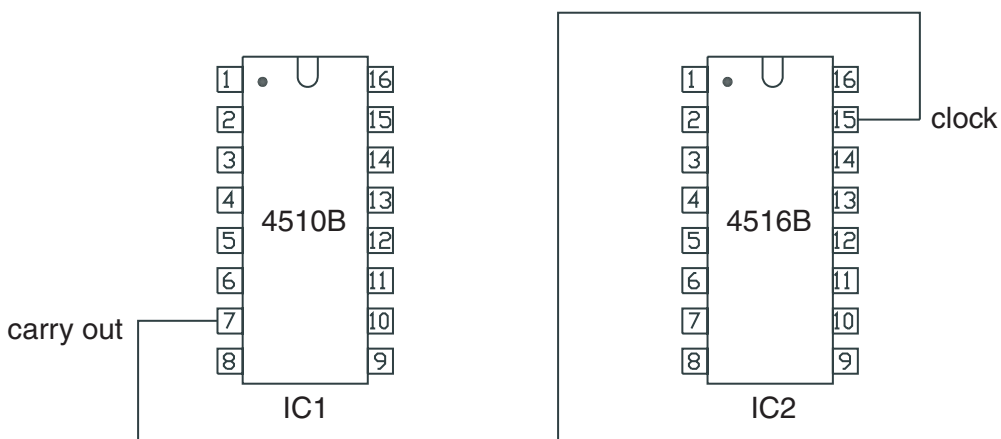

Fig. 20
- (iii) Fig. 20 shows the clock connection for both ICs. The carry out from IC1 sends a pulse each time the maximum count is reached. This pin is connected to the clock input of IC2.